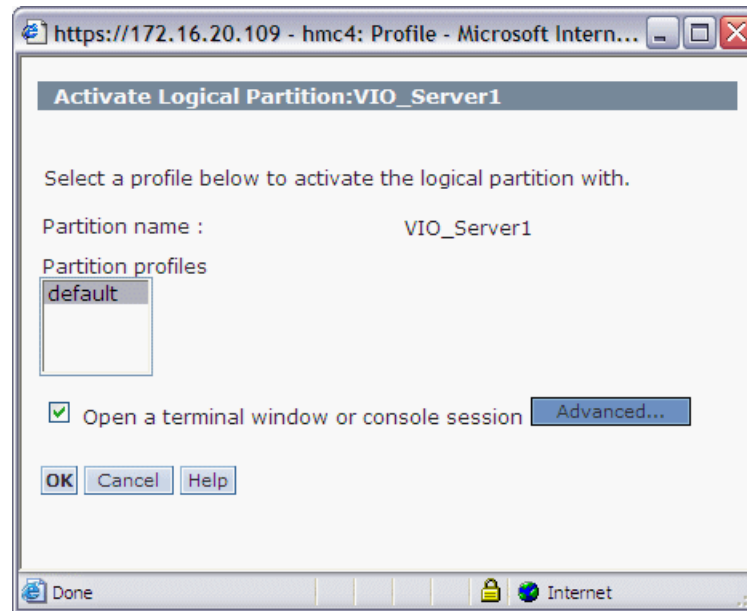

Figure 12-21 HMC Activate Logical Partition submenu
3. Select the default profile and then check the **Open a terminal window or console session** check box, as shown in Figure 12-21, and then click **Advanced**.